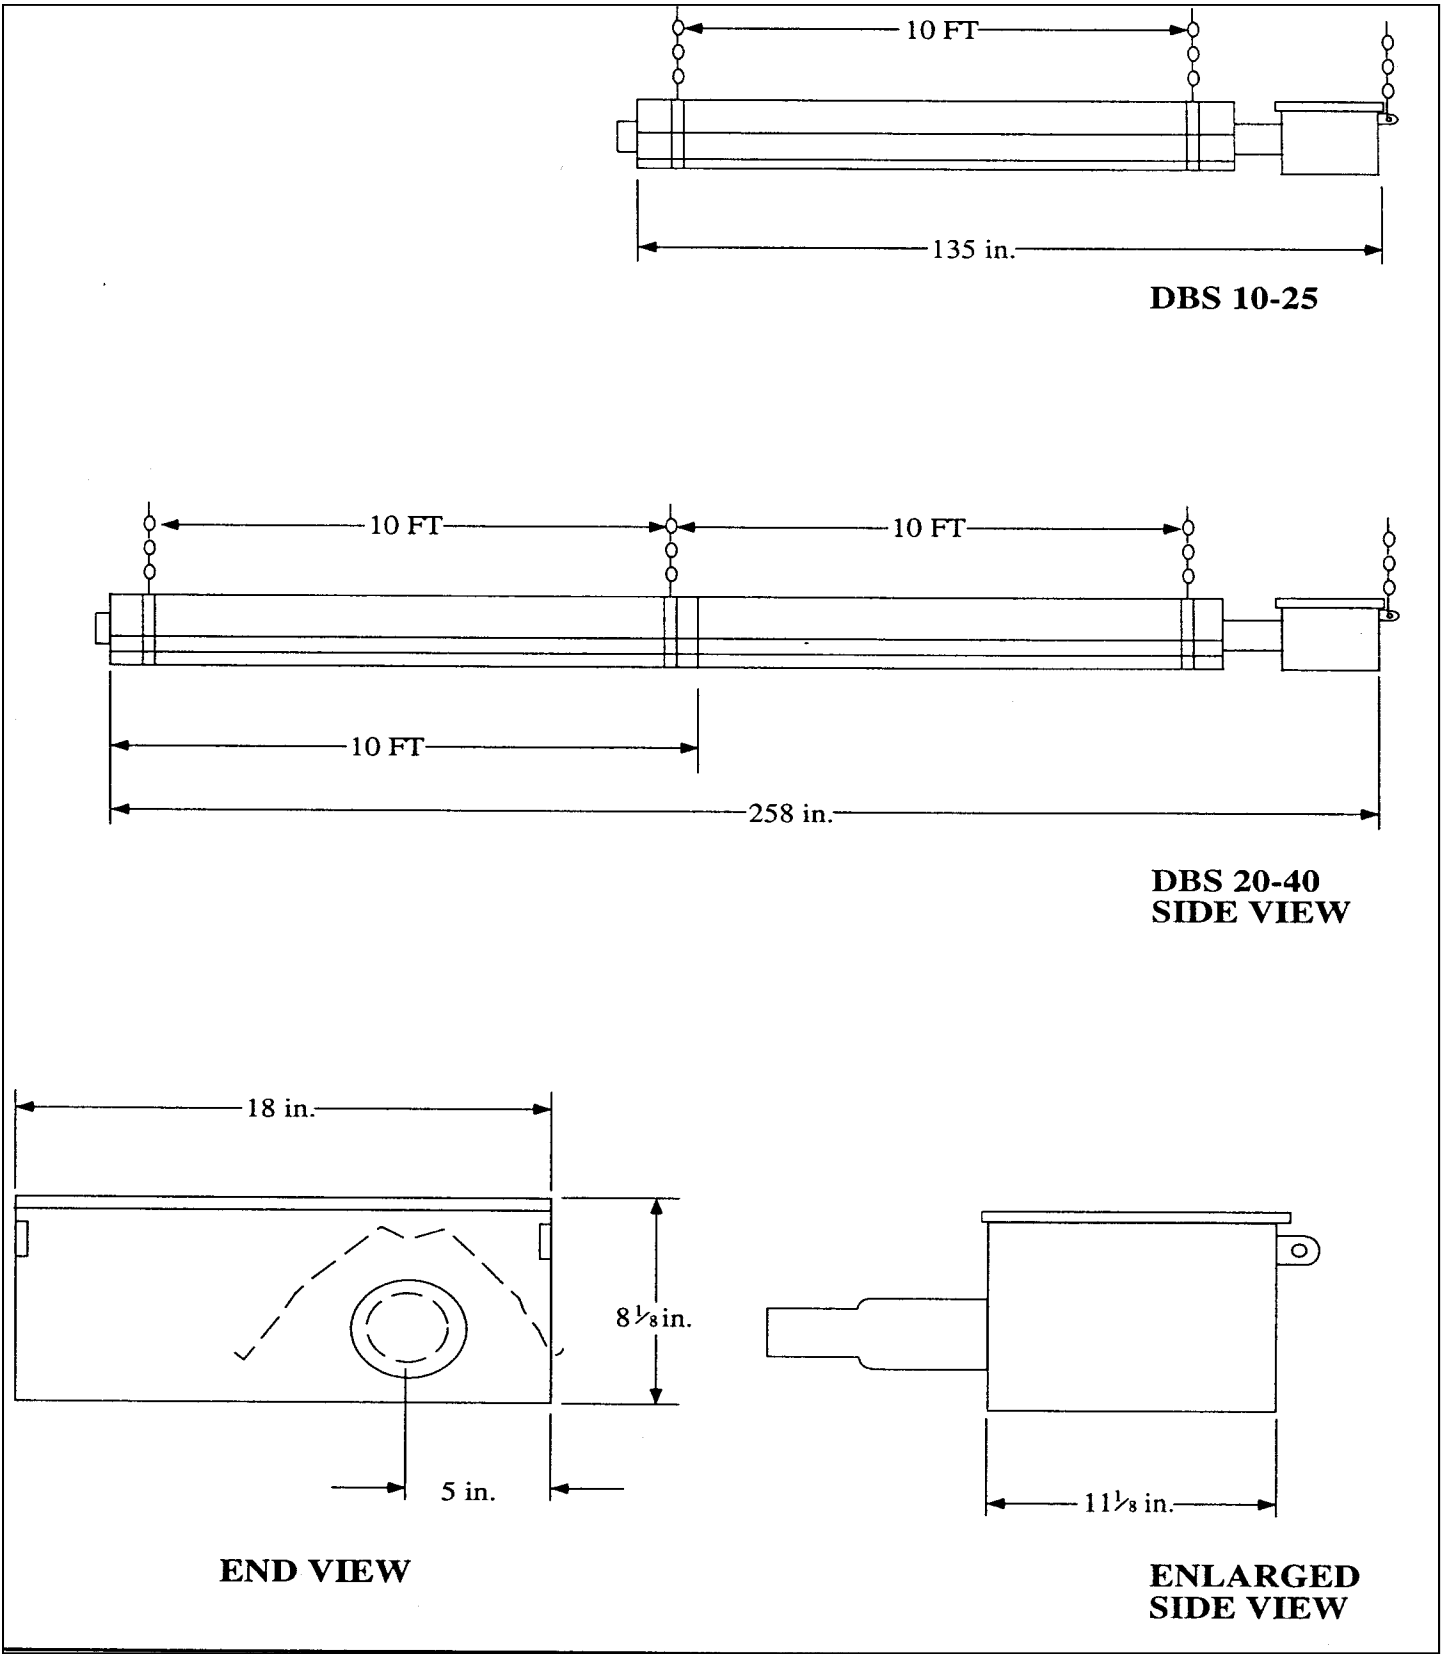

Figure 1-2: Dimensions for Side View and End View of Model DBS 10-25 and DBS 20-40
4. Mount hangers on approximately 10 ft. centers with the first hanger located as close to the burner control box four/three inch reducer as possible (Figure 1-2).